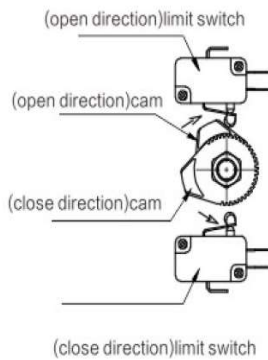

Fig15
- 1) Adjustment of Stroke limit (Figure 15,17)